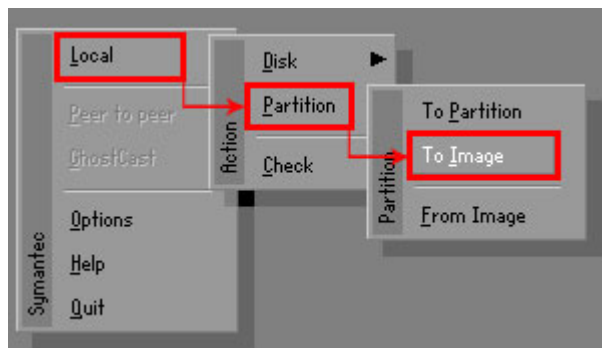

Figure B-13: Symantec Ghost Path
Step 4: Use mouse to navigate to the option shown below (**Figure B-13**).